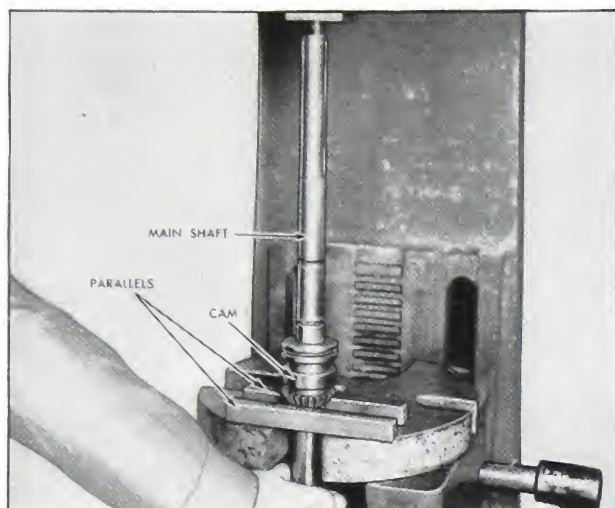

Fig. 5-53. Cam and distributor drive gear
7. Place the main shaft in an arbor press with the distributor drive gear teeth resting on copper parallels or a piece of hard wood. Press the cam from the main shaft off the drive gear end of the shaft. Fig. 5-53.